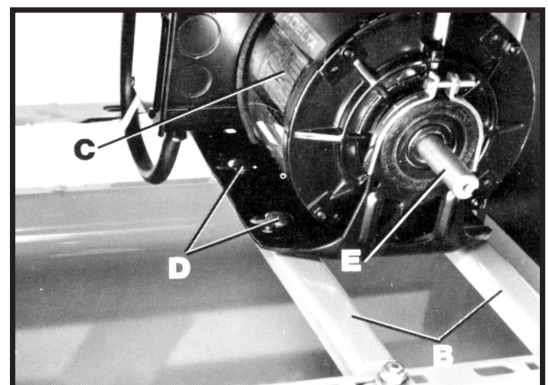

Fig. 6
1. Turn the stand on its side with the two bars (B) Fig. 6 down.
2. Position the motor (C) Fig. 6 on the two horizontal support bars (B), and fasten with the four 5/16-18 x 2" carriage bolts and flanged nuts, two of which are shown at (D).